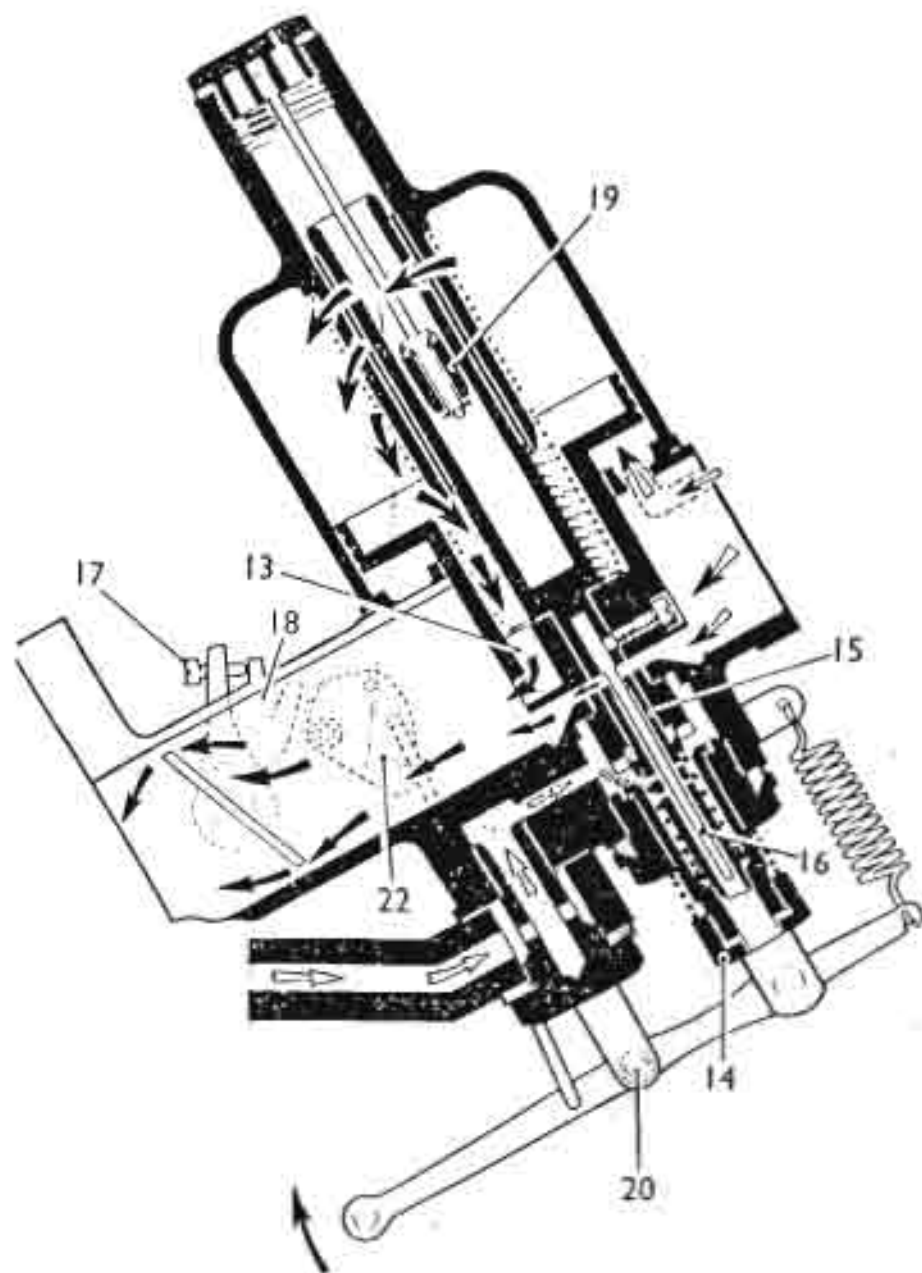

Fig. 3 -
properly. The rich starting mixture is obtained on the H, HD and HS types, but not on the HIF type, by simply lowering the jet, Fig. 2 (9). Inspection of relevant drawings will show that the jet is in a carrier within which it can slide Fig. 3 (15). By bringing this jet down, the needle fills less of the bore of the jet, thus allowing more petrol to flow through it. As soon as the engine has reached normal operating temperature, the jet can be returned to its normal position.
Mixture control (assuming one has the correct needle fitted) is accomplished in a similar manner, a nut on the jet carrier Fig. 3 (14), allows the jet to be adjusted up and down in fine increments until the mixture is correctly set. Such adjustment, of course, will set the mixture only at tickover, and if it is correct at this point the carburettor relies on the needle profile alone to give the correct mixture throughout the rest of the rev range. The adjustment nut, then, in all essence can be termed an idling mixture adjustment nut.